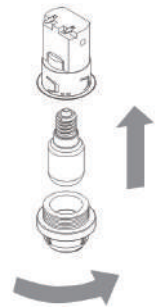

Fig. 4.1
- Remove the glass cover of the lamp-holder(Fig. 4.1);